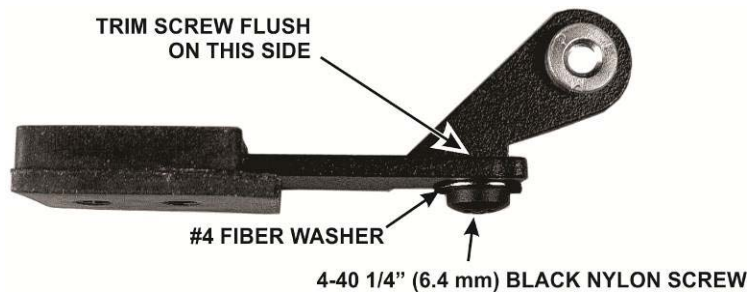

Figure 33. Placing Nylon Bumpers on the Tilt Legs.
- Install a flat fiber washer and black nylon screw on each tilt leg as shown in Figure 33. Note the orientation of the screw as well as the rubber foot that you installed earlier. They must be as shown for the foot to work properly.
- Verify that you trimmed the screws flush with the legs as shown in Figure 33. Set the legs aside. They will be installed later.